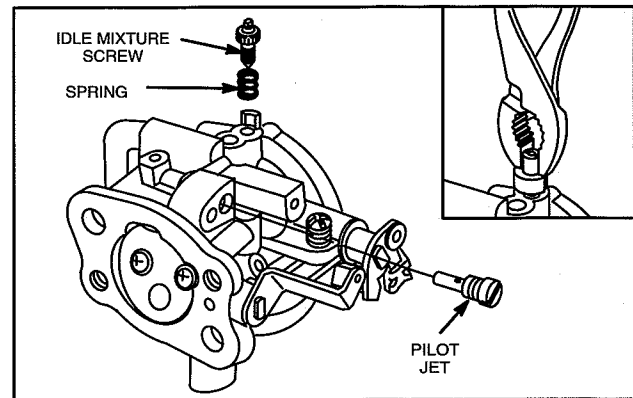

Fig. 28 – Remove Idle Mixture Screw
5. Remove idle mixture valve and spring, Fig. 28.